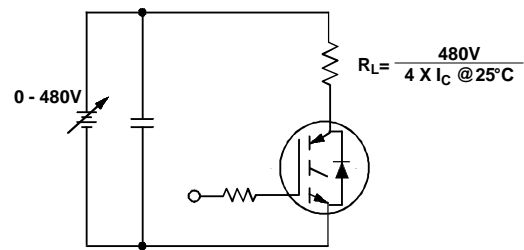

Figure 20. Pulsed Collector Current Test Circuit
- ① Repetitive rating:  $V_{GE}=20V$ ; pulse width limited by maximum junction temperature (figure 20)